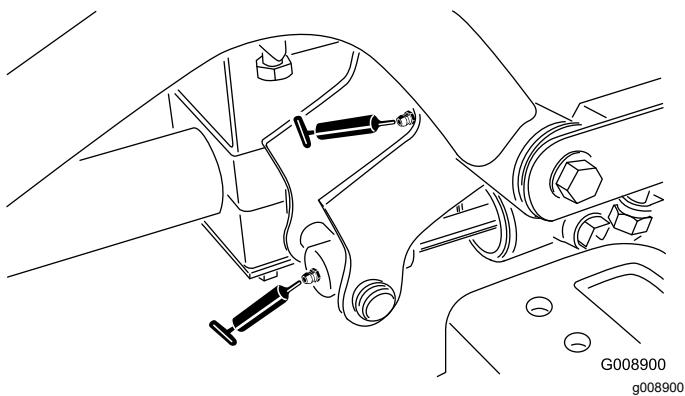

**Figure 38**
- 2 left, front lift-arm pivots and lift cylinder (Figure 38)